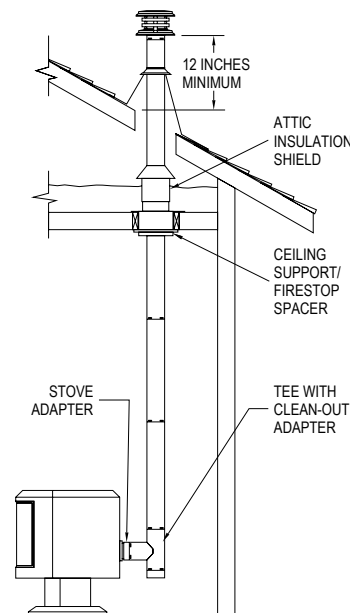

Figure 3
3. If the flue exits on back of stove and an interior installation is desired (Figure 3):